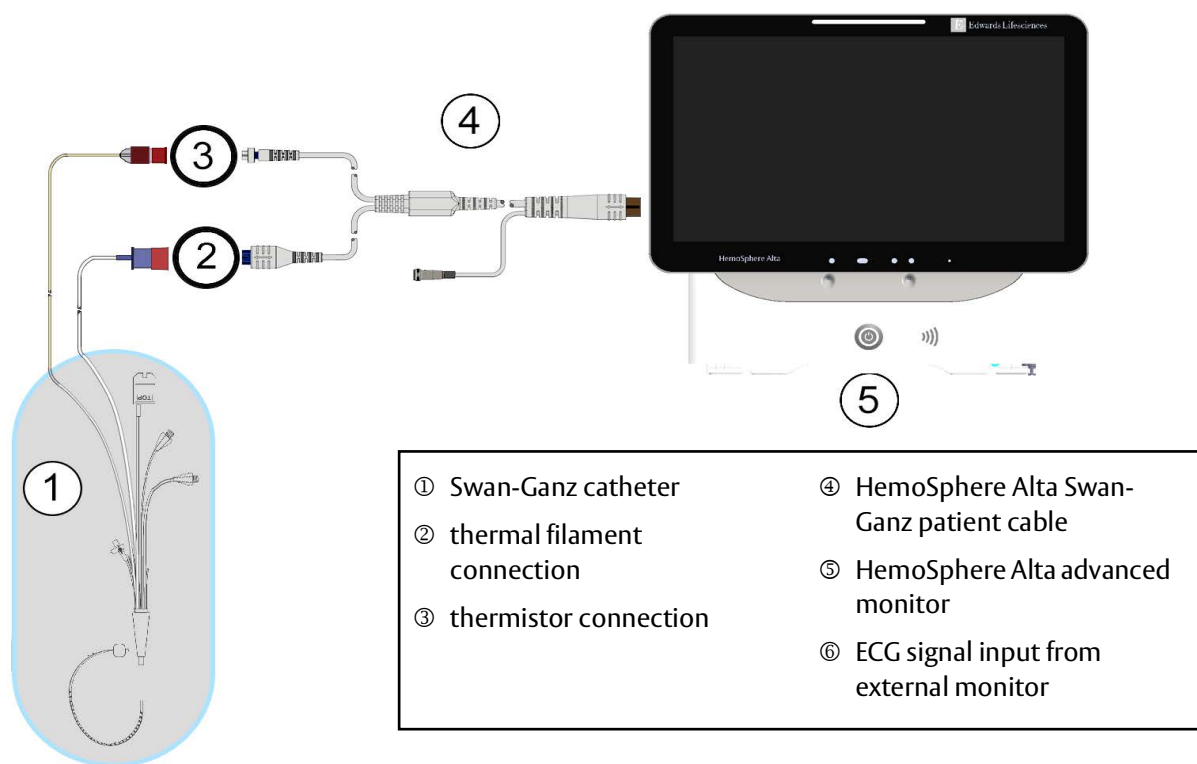

Figure 8-6 EDV/RVEF connection overview
- 2 Attach the catheter end of the patient cable to the thermistor and thermal filament connectors on the Swan-Ganz CCOMbo V catheter. These connections are emphasized by ② and ③ in figure 8-6.